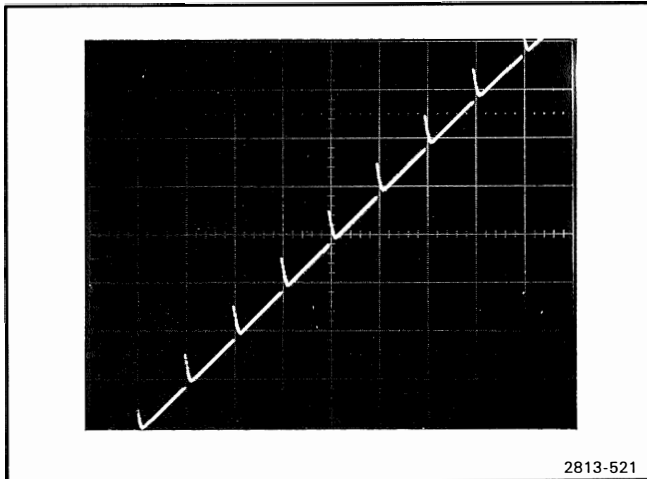

Figure 5-6. Display of Sweep Out versus 1 ms time marks.
- Use the 5223 Vert and Horiz Posn controls to align the second time mark with a vertical graticule line. See Figure 5-6.
c. **CHECK**—that the 7th time mark aligns with the 7th horizontal graticule line, $\pm 6\%$ (0.42 division). Figure 5-6 shows the desired display.